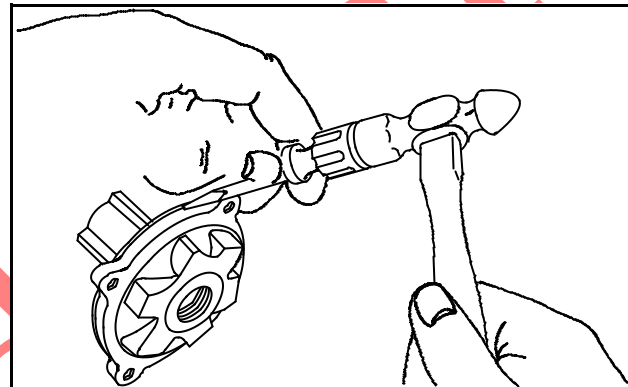

Fig. 19
1. If necessary, the sealed clutch can be disassembled by using a screwdriver or wedge to pry the retainer cover from the housing, as shown in Fig. 19.